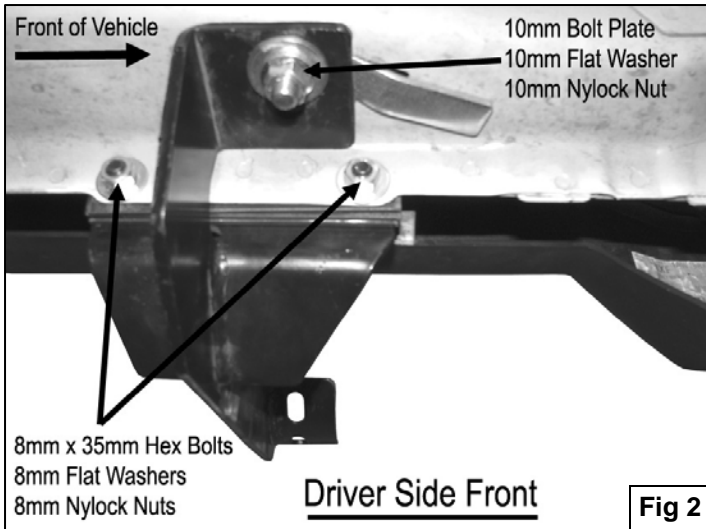

Fig 2
- Partially hang driver side front Mounting Bracket to already inserted Bolt Plate using the included (1) 10mm Nylock Nut and (1) 10mm Flat Washer to secure it **(Figure 2)**.
- Attach Mounting Bracket to pinch weld using the included (2) 8-1.25mm x 25mm Hex Head Bolts, (2) 8mm Nylock Nuts, and (4) 8mm Flat Washers **(Figure 2)**. Do not tighten at this time.